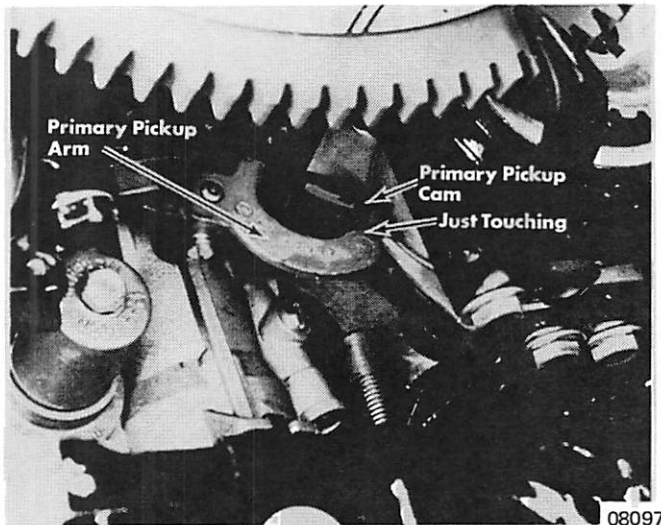

Figure 4. Primary Pickup Cam Just Touching Carburetor Primary Lever
2. With the flywheel aligned as above, primary pickup cam should just touch primary lever on carburetor cluster. (Figure 4)